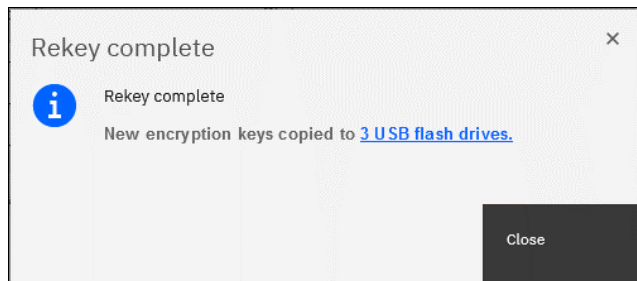

Figure 12-73 Successful rekey operation by using USB flash drives
4. You receive a message confirming that the rekey operation was successful, as shown in Figure 12-73. Click **Close**.